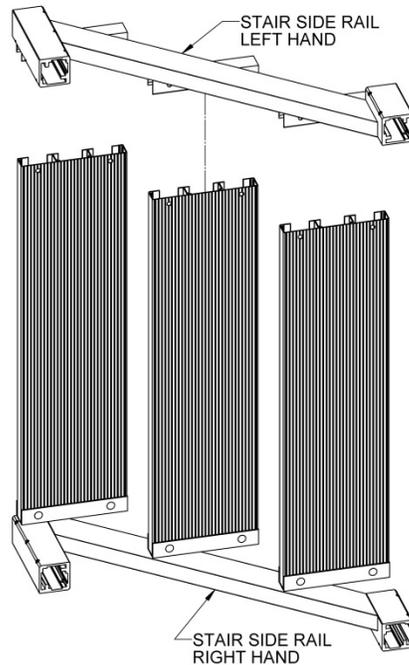

FIG. 3
- 2.3. Set the left hand side rail on the treads and tap into place until the holes in the channel cleat line up with the holes in the tread (FIG.3).